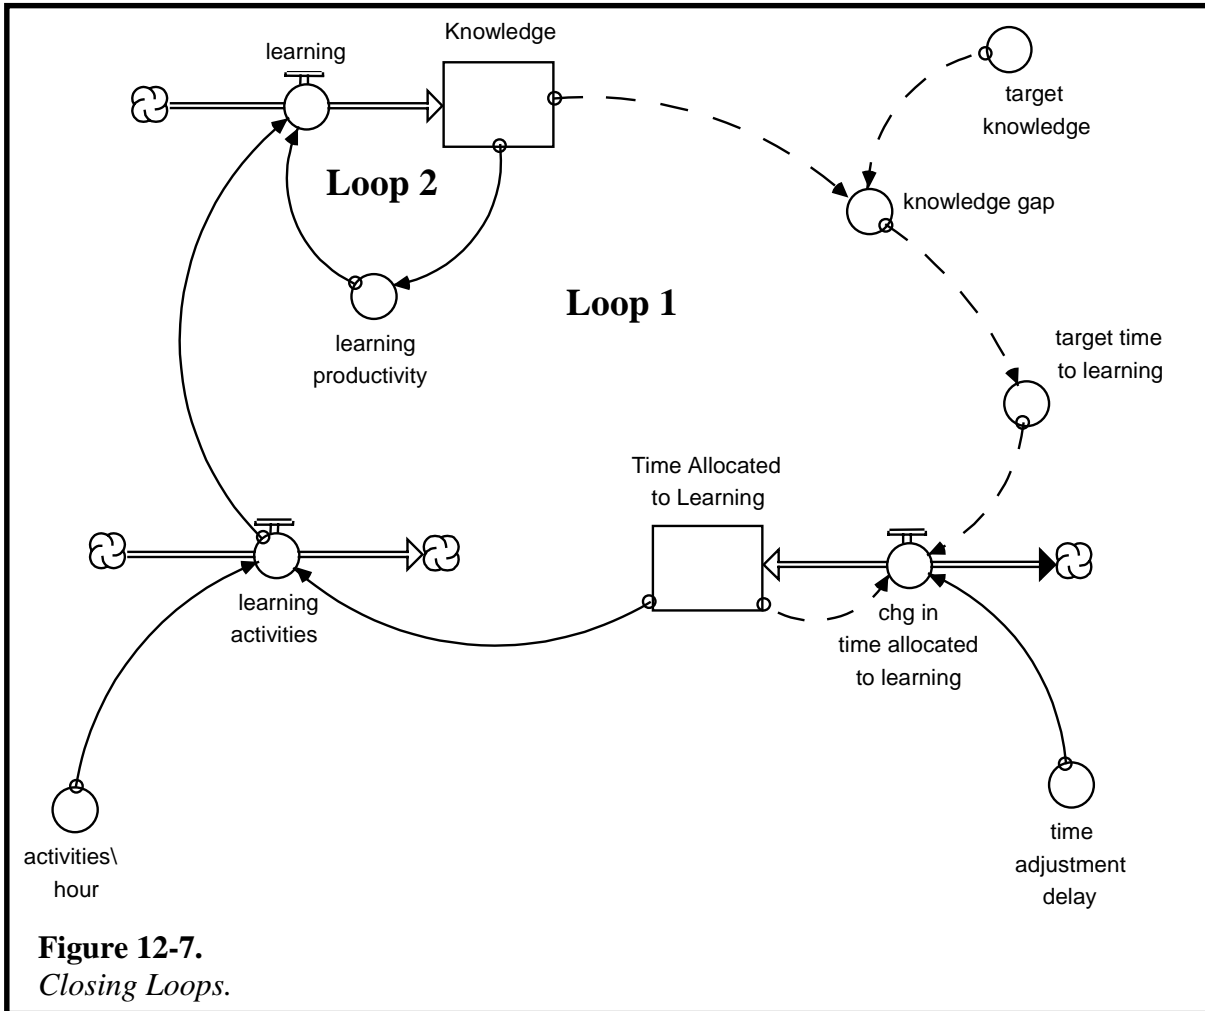

Figure 12-7.
- Look to see if any of the parameters associated with the generic flow templates that are currently constant, should in fact really depend on some other variable *currently on the screen* (many will be, but you’re only interested in making them variables if doing so is part of your hypothesis!). Close the resulting feedback loop as illustrated in Figure 12-7.